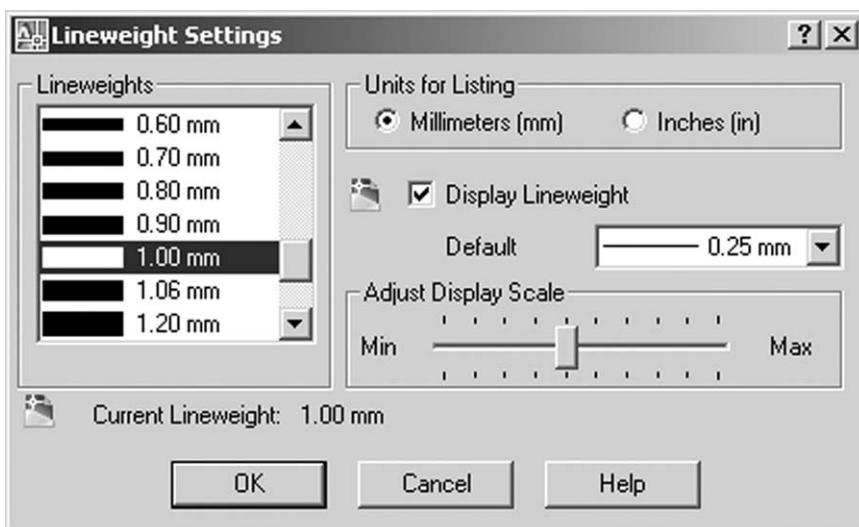

Figure 23.2 The Lineweight Settings dialogue box.
- c) dialogue box as Figure 23.2